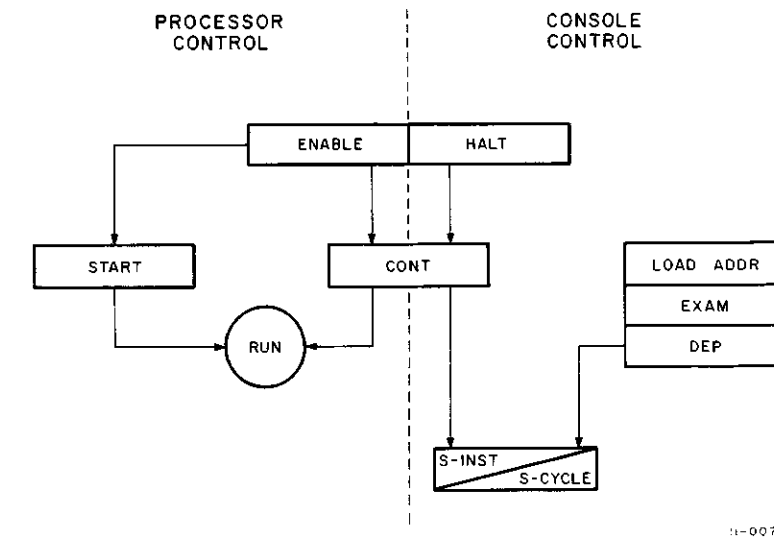

Figure 3-4 Console Switch Relationships
3.3.2.1 ENABLE/HALT Switch – Figure 3-4 shows the relationship of the console switches to the ENABLE/HALT switch. When the processor has control, as allowed by ENABLE/HALT being set to ENABLE,